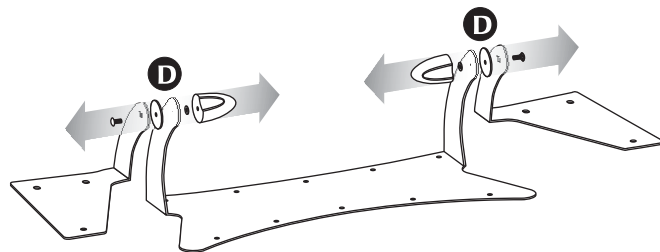

Figure 8. Removing the brackets.
- 5 Unscrew the two large knobs and remove the center part of the stand. Set the 2 bolts, 2 rubber washers, 2 plastic washers and the large knobs nearby (figure 8, step D).